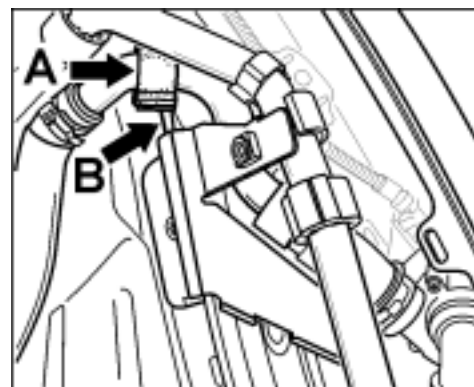

Figure 8
- 10 Check the position of the rubber ring (⇒ *Figure 8*-, **Arrow A-**) in the area of the upper holder and adjust it if necessary. The rubber ring must be located at the height of the sheetmetal seam (⇒ *Figure 8*-, **Arrow B-**) on the unpainted bodyshell.